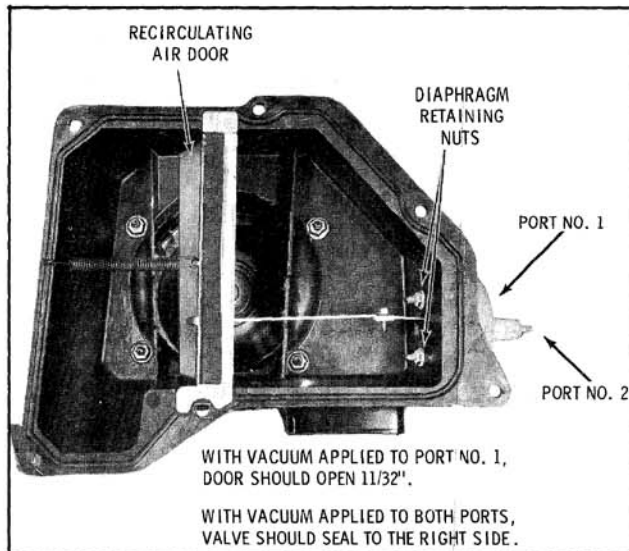
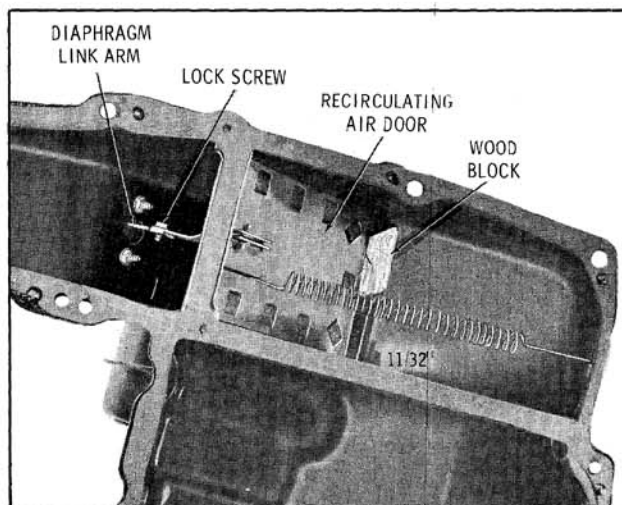

Fig. 14-78 Recirculating Air Door Adjustment
Fig. 14-79 Recirculating Air Door Adjustment
1. With vacuum applied to the upper port, the recirculating air door should be opened  $1\frac{1}{32}$ ". Fig. 14-78 illustrates the adjustment on the 52 through 86 Series. Fig. 14-79 illustrates the adjustment on the 33 through 38 Series.